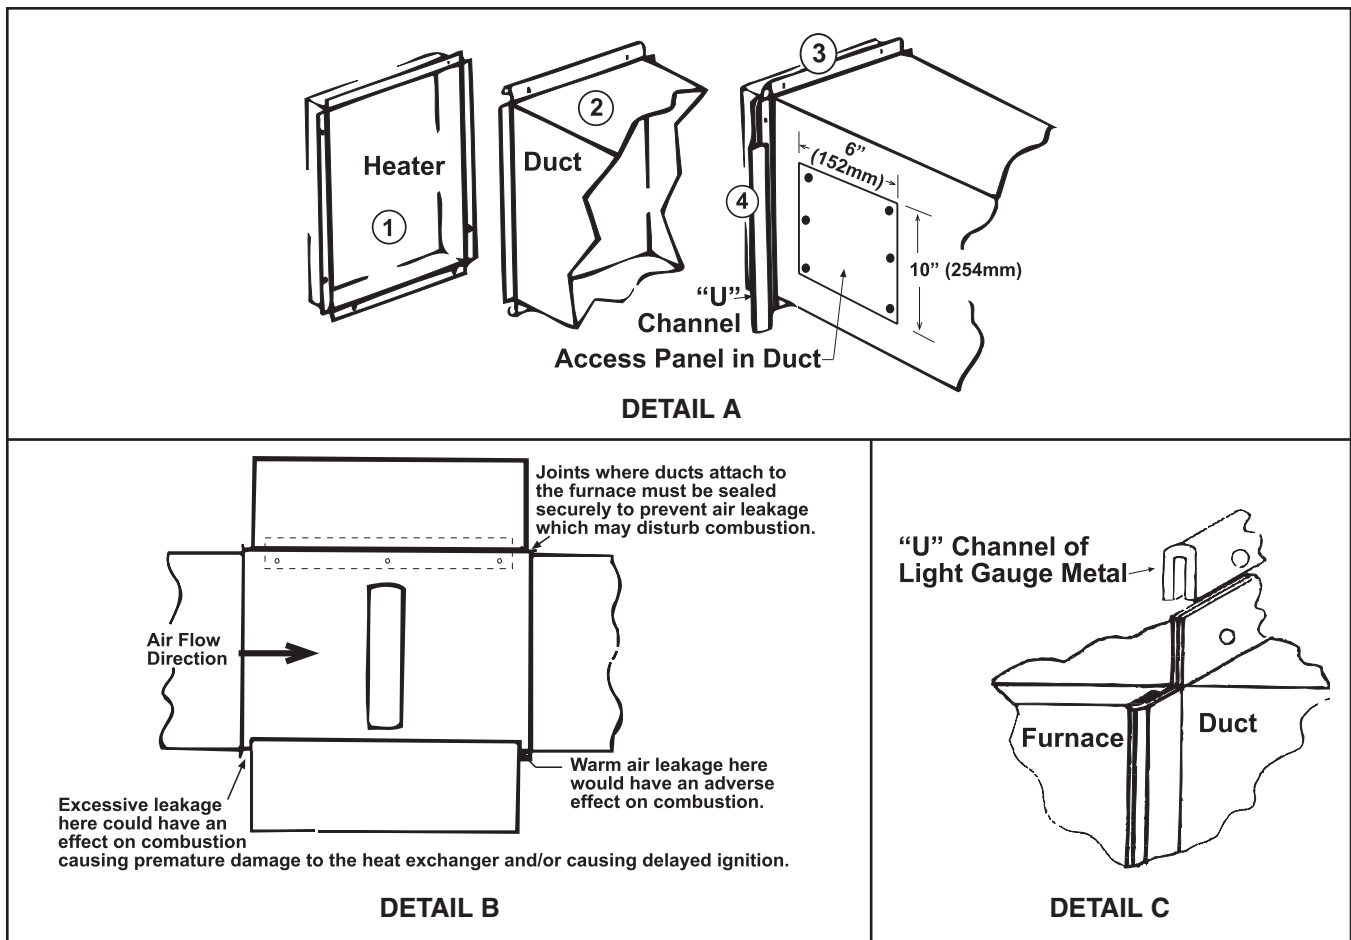

Figure 25. Connecting Ductwork to Furnace
See **Figure 25**, DETAIL A for numbers that refer to the following steps to connect the ductwork to the furnace:
- To prevent leakage, ensure that duct joints are sealed as shown in **Figure 25**, DETAIL B.
- The seals between the furnace and the duct must be mechanical U-channels as shown in **Figure 25**, DETAIL C.